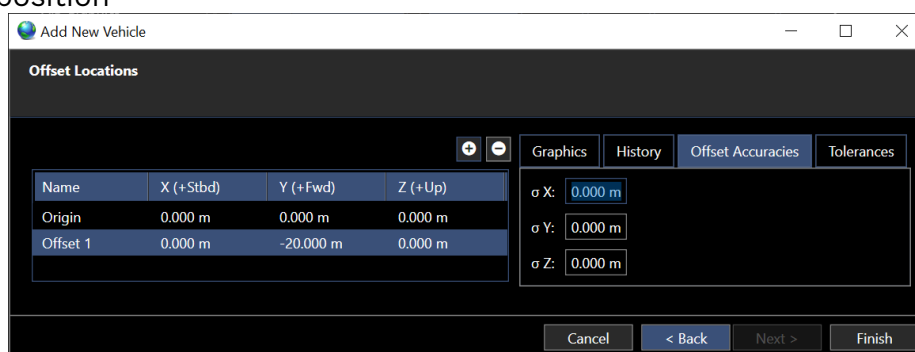

FIGURE 7-20 VEHICLES - NEW VEHICLE WIZARD - OFFSET LOCATIONS PAGE - OFFSET ACCURACIES TAB
- f. Edit the **Offset Accuracies** (see Figure 7-20), used in the error propagation for the offset position